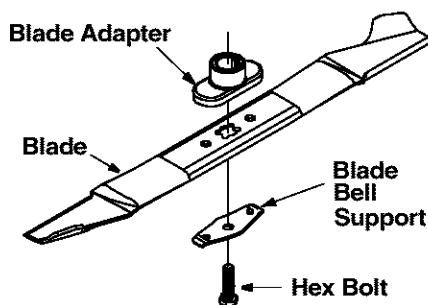

Figure 14
- Remove the bolt and blade support or bell washer which hold the blade and adapter to the engine crankshaft. See Figure 14. Remove the blade and adapter from the crankshaft.
- Install the blade adapter on the crankshaft with the "star" away from the engine. Refer to Figure 14.